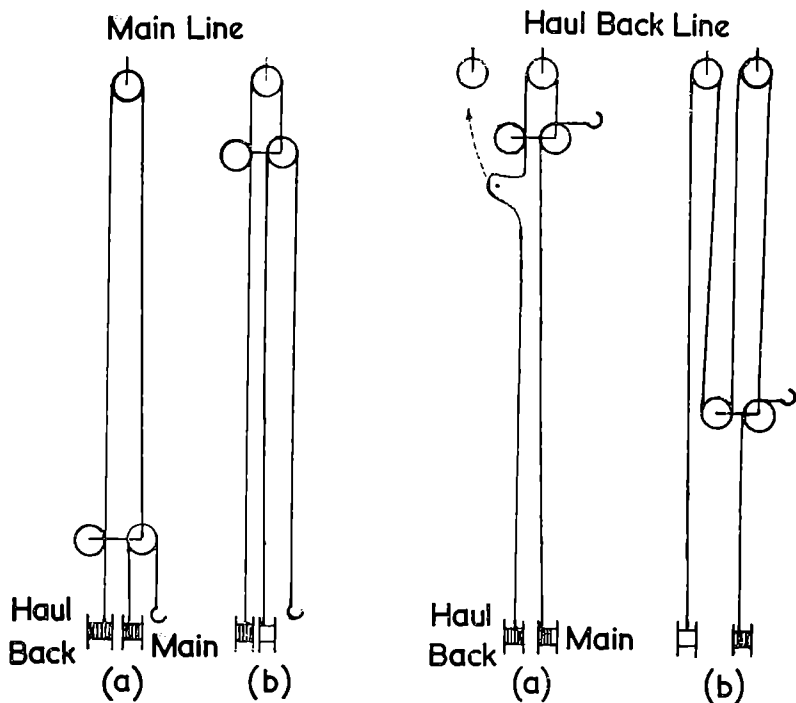

FIG. 7 Re-winding wires.
- (vii) **Re-winding Ropes:** Despite careful working, there is a tendency for a few coils of wire on the drum to work loose, just beyond the length which is being used. If these are not tightened up damage to the rope will result. Provided the tail block is at least half the length of the rope from the winch, (i.e. 125 yards with the lengths suggested above), the full length of the wires can be run out and rewound under strain as shown in Figure 7.